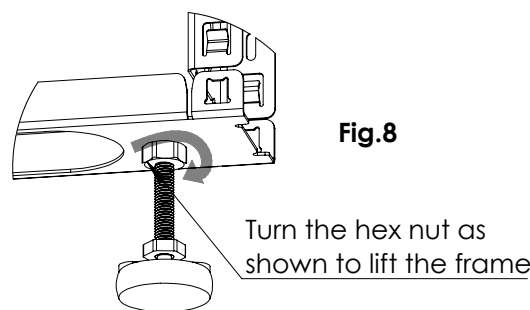

Fig.8
- (iii) Adjust the height of the frame (1) from the feet (16) as shown in Fig. 7 & Fig. 8 if required to suit the set-outs mentioned in Table 2, depending on the final finished floor height.